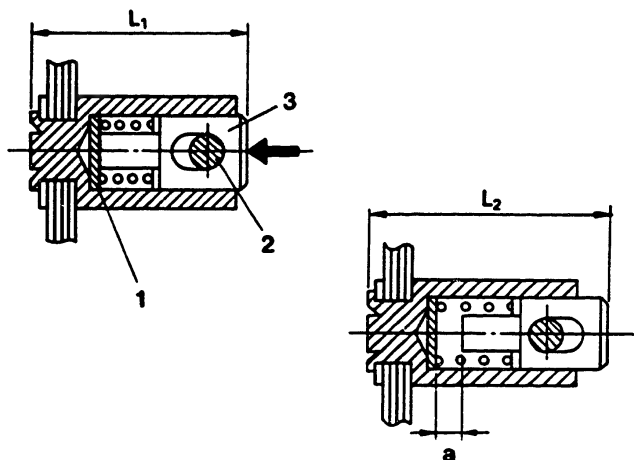

Fig. 50 Rod position measurement
- 2) Measure the difference ($L_2 - L_1$) between the pushrod fully inserted and fully extended as shown in Figure 50. The difference is the torque control stroke.